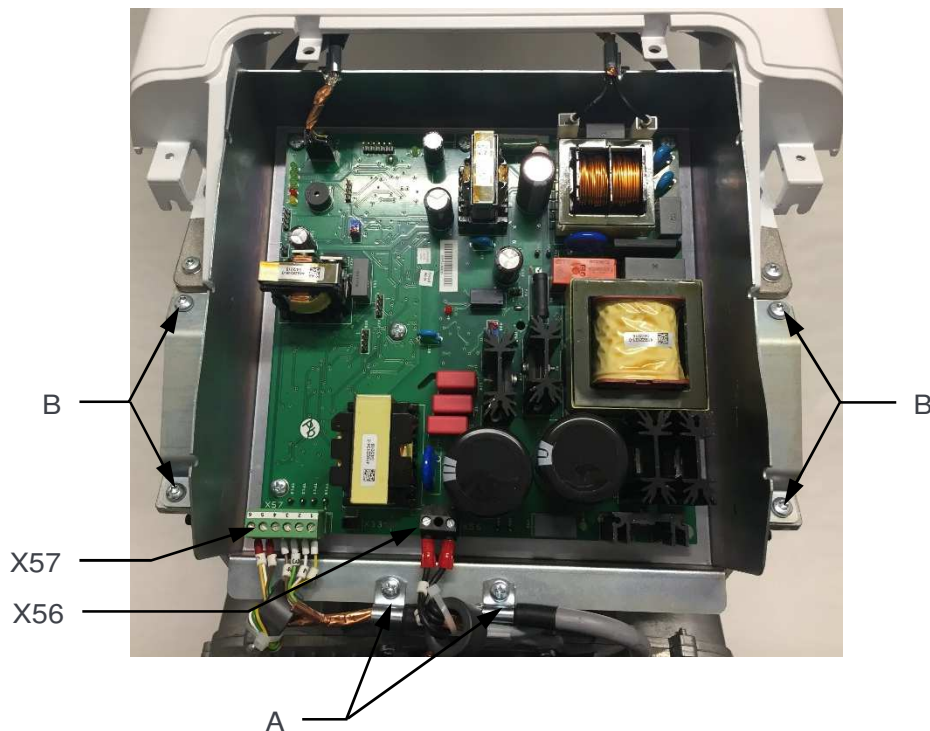

Figure 36
8. Connect X56 and X57 connectors and fix the cables fixing clamps "A" (Figure 36).